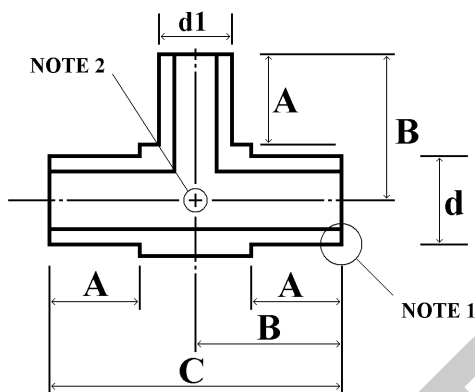

Figure 4A
5.2 *Reducing Tee Weld Fittings* (see Figures 4A and 4B)